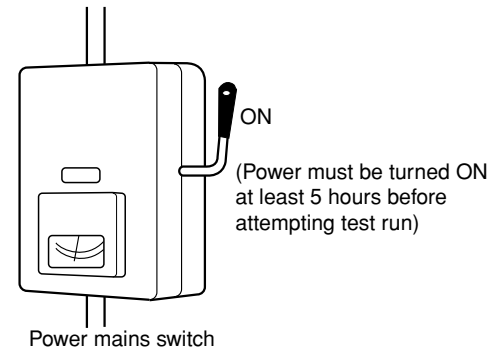

Fig. 10-1
- (1) The control wiring is correctly connected and all electrical connections are tight.
- (2) The transportation pads for the indoor fan have been removed. If not, remove them now.
- (3) The power has been connected to the unit for at least 5 hours before starting the compressor. The bottom of the compressor should be warm to the touch and the crankcase heater around the feet of the compressor should be hot to the touch. (Fig. 10-1)